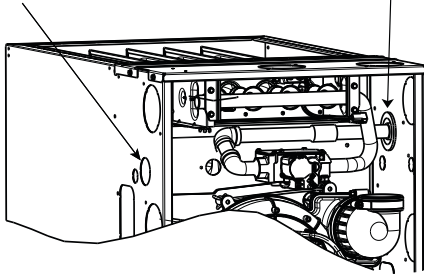

Fig. 32 - Gas Entry
Gas entry can be from left or right side, or top panel. See **Figs. 32 and 33**.
For direct vent (2-pipe) applications, the knockout for the gas pipe must be sealed to prevent air leakage. Remove the knockout, install the grommet in the knockout, then insert the gas pipe. The grommet is included in the loose parts bag. See **Fig. 32**.
5. Fasten the external electrical box to the furnace casing using two (2) sheet metal screws.
11. Connect field power and neutral leads to furnace power leads inside the external electrical box as shown in **Fig. 32**.